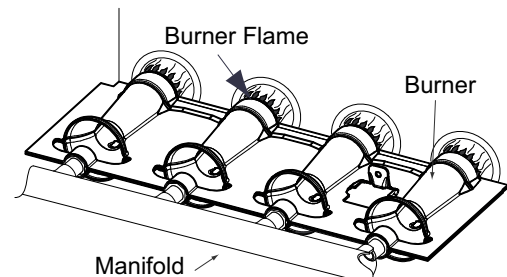

Fig. 66 – Burner Flame
- i. When correct input is obtained, replace cap that conceals gas valve regulator adjustment screws. Main burner flame should be clear blue, almost transparent See Fig. 66.